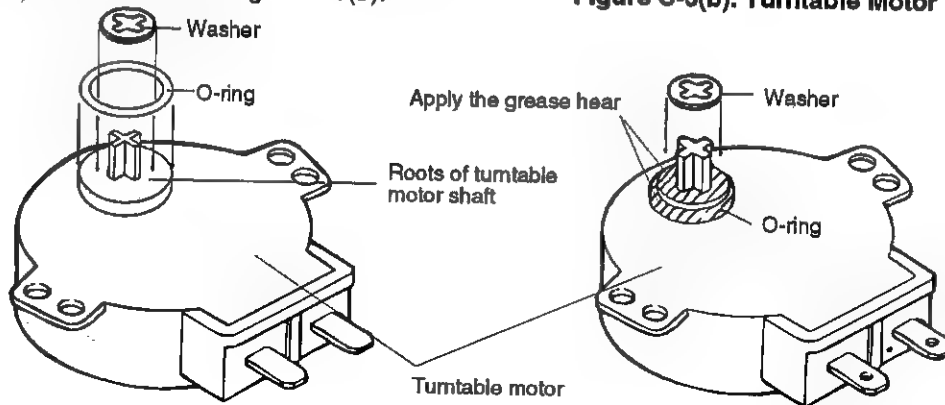

Figure C-4. Washer and O-ring Installation and Grease Applying.
4. Apply the grease (Shinetsu silicone grease G-420 of Shinetsu Chemical Co. Ltd. or Toray Silicone grease SH-14 of Toray Silicone Co., Ltd.) to the O-ring and the roots of the turntable motor shaft as shown in Figure C-4.
5. Re-install the turntable motor with the O-ring and washer to the oven cavity with the single (1) screw.